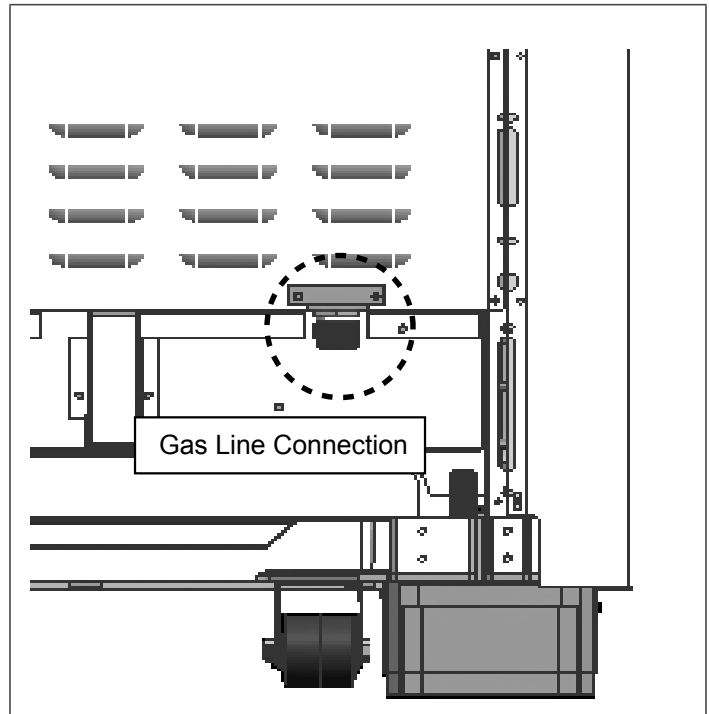

Figure 10: Manifold Gas Line Connection
- Use 3/4" (19mm) flex line to connect between the gas supply and the appliance inlet pipe, which exits the rear, lower right of the appliance. The appliance pipe connection has a 3/4" (19mm) NPT external thread and a 1/2" (13mm) NPT internal thread (see Figure 10 on page 14).